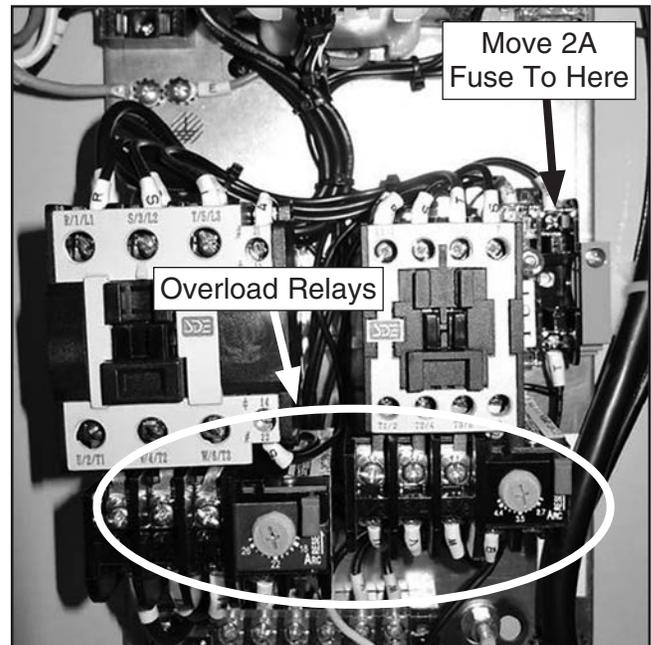

Figure 5. Locations of the overload relays on the electrical panel.
3. Make note of wire locations on both overload relays installed on the electrical panel (see **Figure 5** and refer to **Electrical Cabinet Wiring Diagram** on **Page 80**).
6. Move the 2 amp fuse from the 220V fuse holder to the 440V fuse holder, as shown in **Figure 5**.